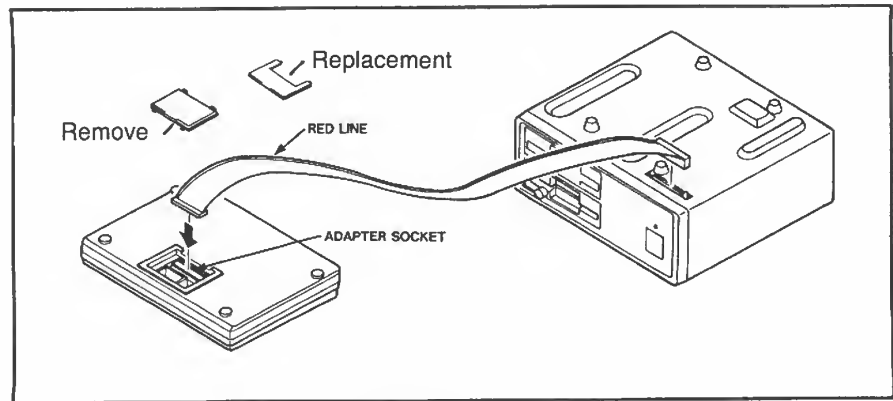

Figure 7.2 Connecting the MODEL 100 and disk/video interface
4. Plug the other end of the flat-ribbon cable into the 40 pin socket on the bottom of the Disk/Video Interface. It is secured by latching the plastic hooks at each end in place over the connector (see Figure 7-2).